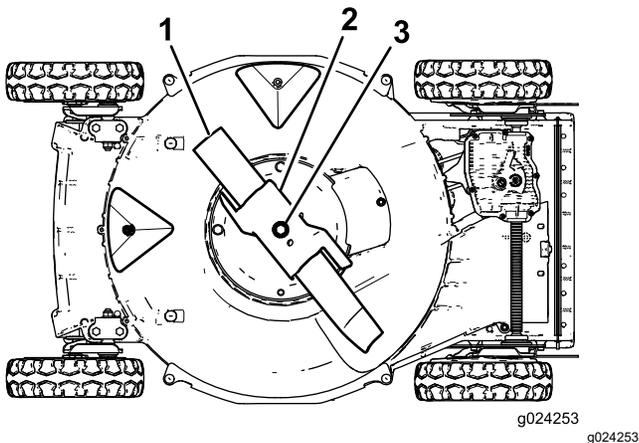

Figure 23
- Tip the machine onto its **right** side (air cleaner up) as shown in Figure 23.